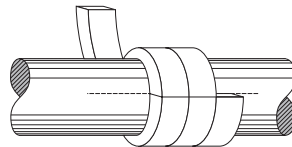

FIGURE 2 – Butt Cut
2. Make butt cut rings (See Figure 2). Skive cut rings may be utilized if specified for a given application; note that greater time between adjustments may be required to ensure proper cooling and lubrication of the packing. The preferred way is to wind the desired number of rings on a mandrel the same diameter as the shaft, and cut rings by making one straight cut parallel with the mandrel. Make sure each ring fits packing space properly. Never measure the calculated length of a packing ring and cut it. This practice will result in an improper mating of the ring joints in the stuffing box. An alternate method of cutting rings is to use the mechanical packing cutter.